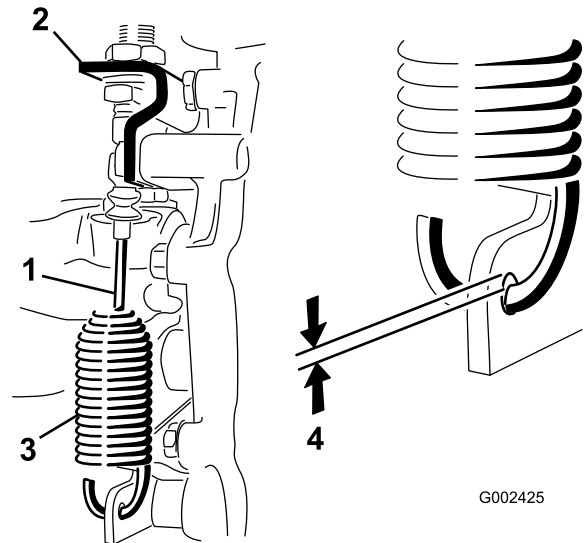

Figure 56
2. Loosen the jam nuts securing the differential lock cable to the bracket on the transaxle (Figure 56).